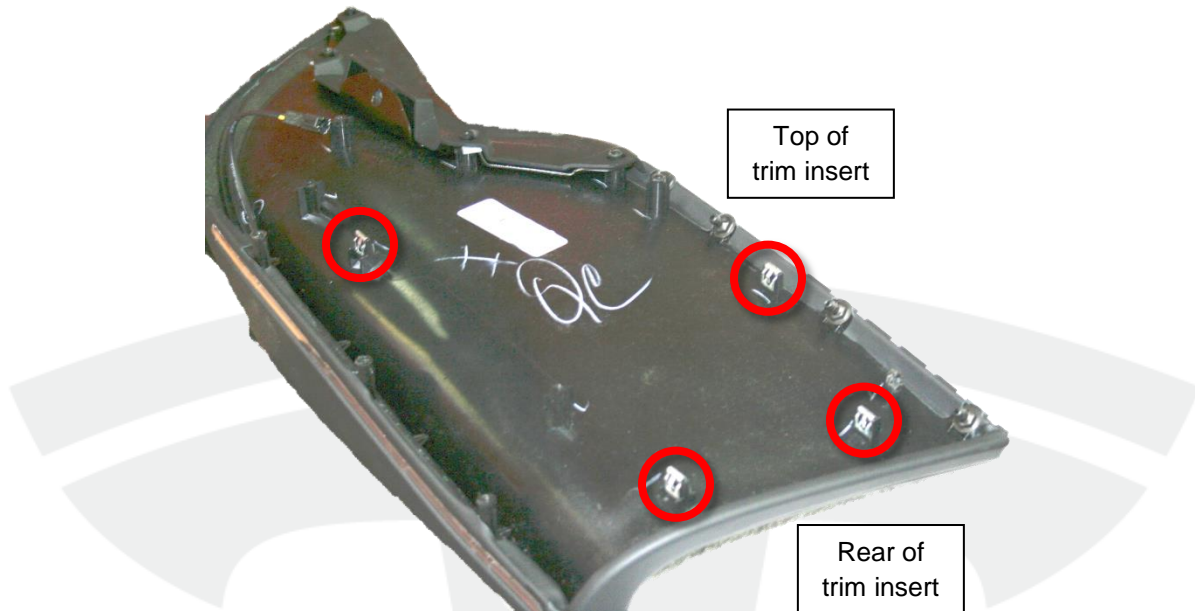

Figure 5
8. Remove the 4 metal clips from the outboard side of the door trim insert (Figure 5). Do not reinstall the door trim insert with these clips attached.